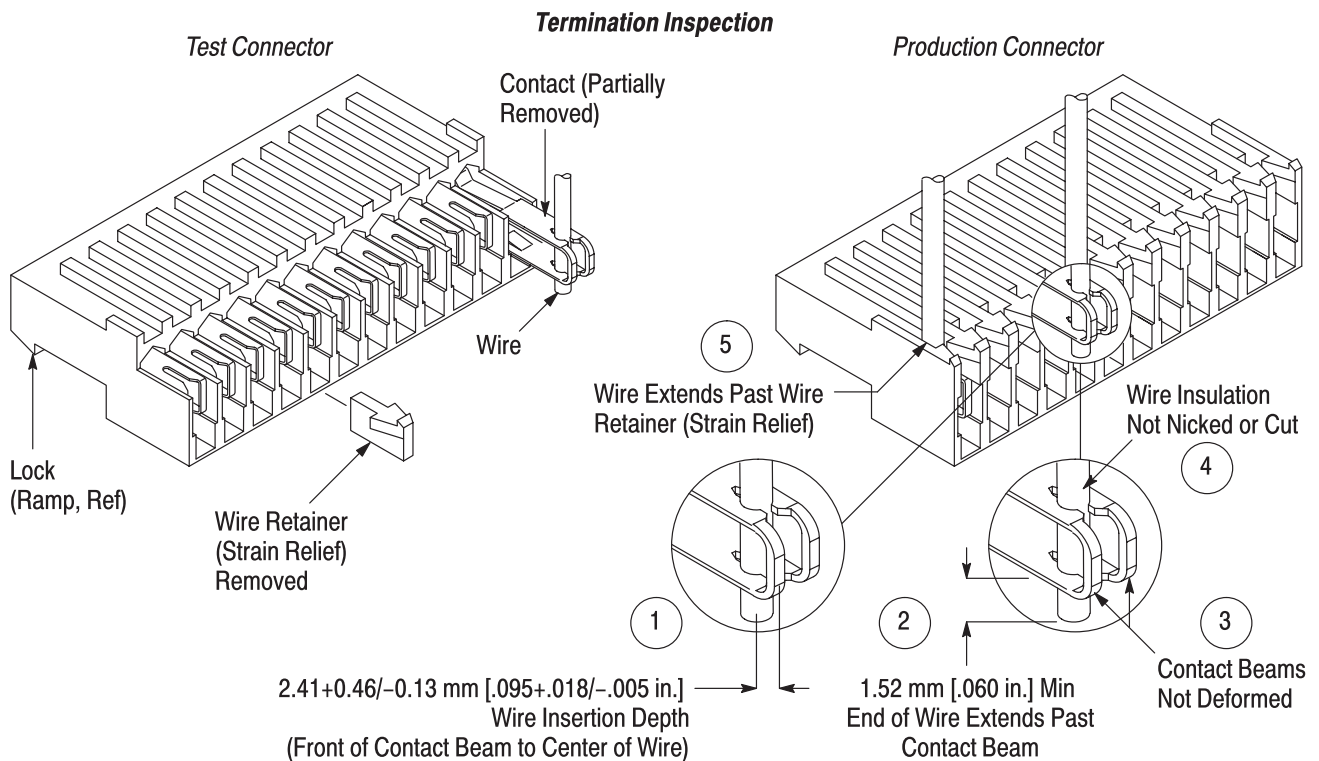

Figure 3
2. Using a small knife, cut off the wire retainers (strain relief) of the connector. This will provide a clear view for inspecting the connector for a properly terminated wire in the contact. See Figure 3.
5. Check that the wire insertion depth is within the dimension given in Figure 3.
NOTE To obtain the wire insertion depth, measure from the front of the contact beam to the center of the wire as shown in Figure 3 – or – measure from the front of the contact beam to the back of the wire and subtract the wire diameter divided by 2.
3.2. Termination Inspection (Refer to Figure 3)
1 — The required wire insertion depth is within the dimension given in Figure 3 (refer to Step 5 of Paragraph 3.1 for measurement).
- Modified Figure 3